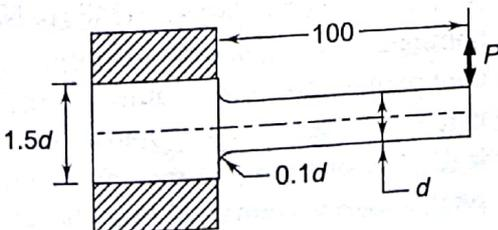

Fig. 5.62
5.7 **M** A cantilever beam made of steel Fe 540 ($S_{ut} = 540 \text{ N/mm}^2$ and $S_{yt} = 320 \text{ N/mm}^2$) and subjected to a completely reversed load (P) of 5 kN is shown in Fig. 5.62. The beam is machined and the reliability is 50%. The factor of safety is 2 and the notch sensitivity factor is 0.9. Calculate: